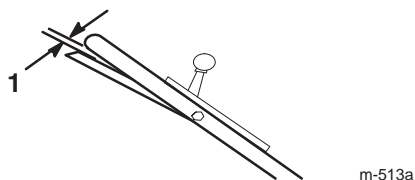

Figure 24
**Note:** The adjustment is correct when the rear wheels stop turning and the control bar is about one inch (2.5 cm) from the handle (Fig. 24).